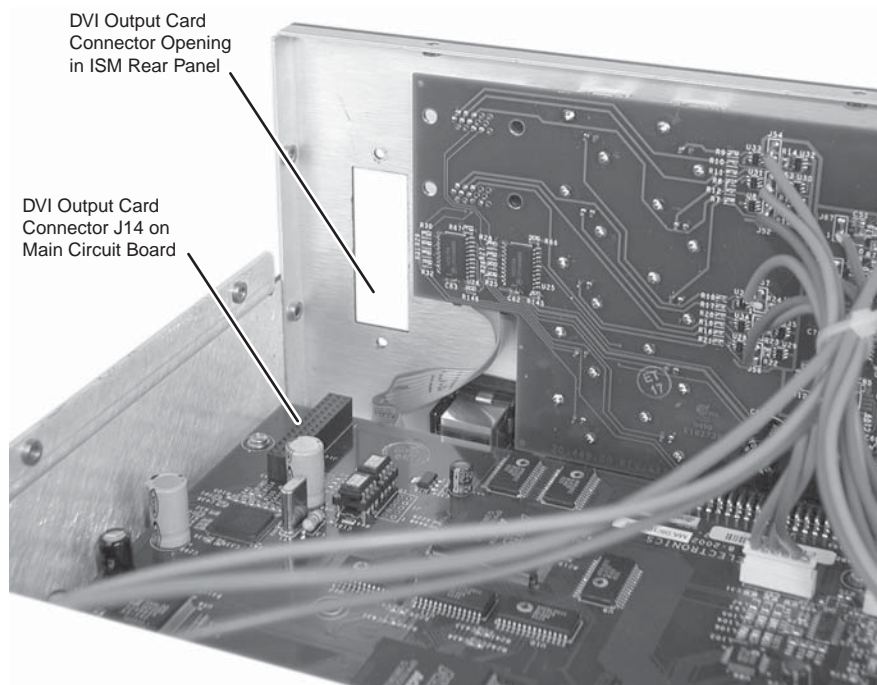

Figure 7-3 — DVI output card connector opening and socket J14
2. Locate the DVI output card connector opening on the rear panel and the DVI output card connector J14. When viewed from the front, connector J14 is in the far left corner of the main circuit board (figure 7-3).